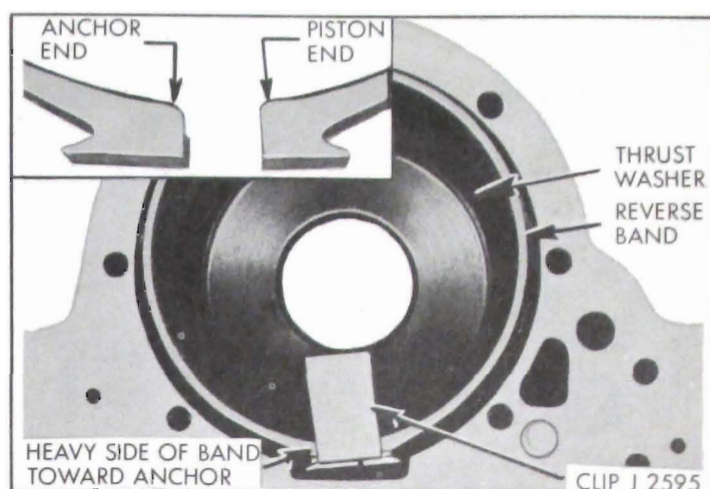

Figure 5-88—Ring Gear Thrust Washer and Reverse Band Installed
2. Compress ends of reverse band with band installing clip, J-2595 and install in case. When installing band make certain that the heavy side of the band is in the correct position so that it will attach to the reverse anchor and not to the strut. See Figure 5-88. Remove the clip.